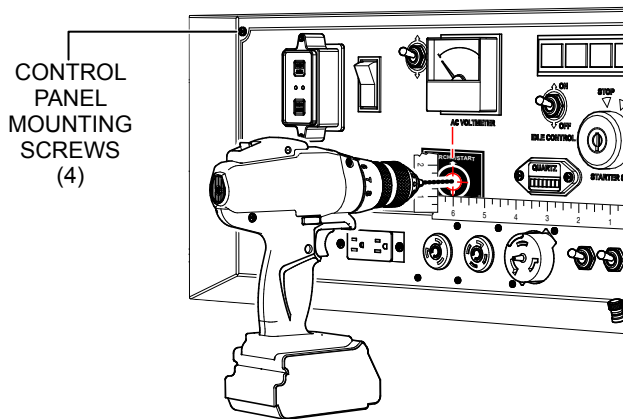

Figure 11. Positioning Switch Mounting Hole
11. Use a 1/2" drill bit (Figure 11) to drill out the marked location.